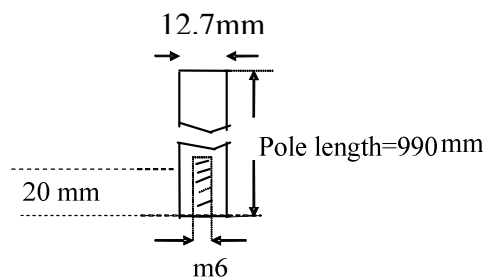

Fig.1. Pole Dimensions
- 3.1 The pole is shown in Fig.1. The pole should have the dimension shown in Fig.1, with the length of 990 mm and outer diameter of 12.7 mm with a tolerance of 5%. The pole must have uniform cross section and weigh **150** grams with in a tolerance of 5 %. When the pole is placed with its centre on the middle of a support surface of 1.5 cm width, with both sides overhanging, the pole should not topple. A few such poles will be collected from participants and the competition pole will be picked arbitrarily from the lot by the judge.